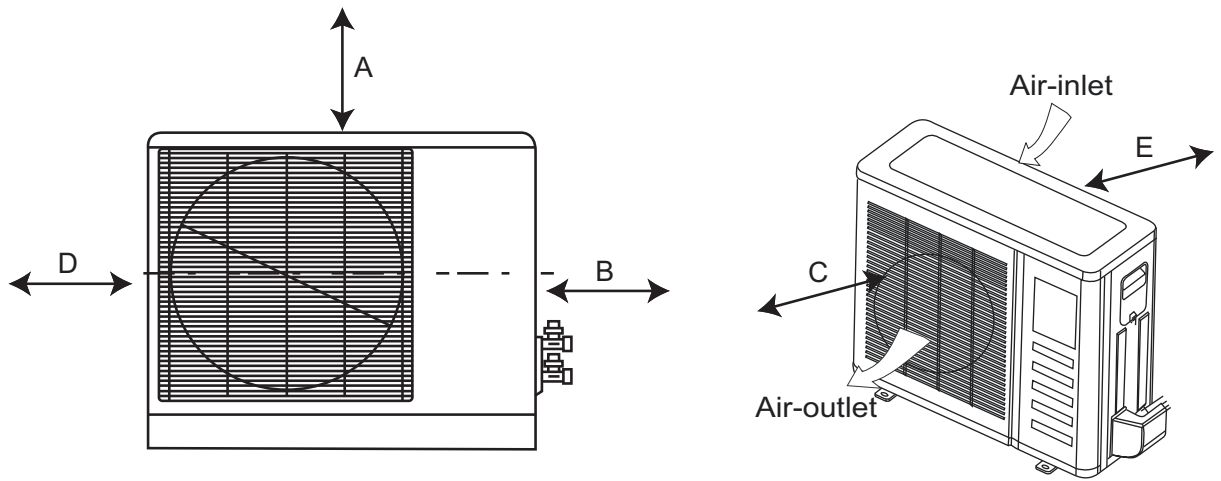

Fig. 7 — Clearances
Allow sufficient space for airflow and unit service.see Fig. 7 — on page 11 for the minimum required distances between the unit and walls or ceilings.
- A location with appropriate clearances as outlined (see Fig. 7 — on page 11).